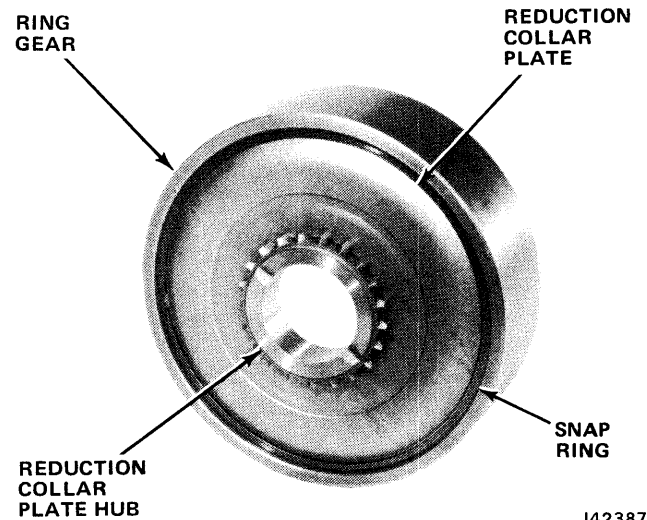

Fig. 8-38 Ring Gear Assembly
(24) If ring gear was disassembled, install reduction collar and reduction collar plate hub and install retaining snap rings (fig. 8-38).